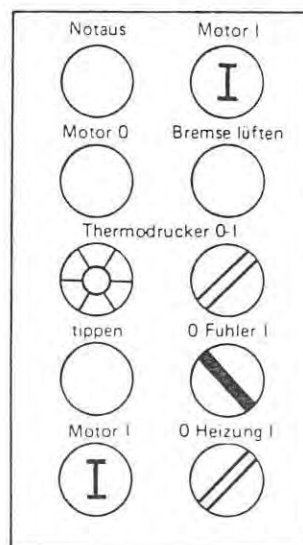

Fig. 116
14. Set the „Sensor“ select switch to „0“. Switch on the machine by simultaneously pressing the „Machine I“ button (Figure 116) –